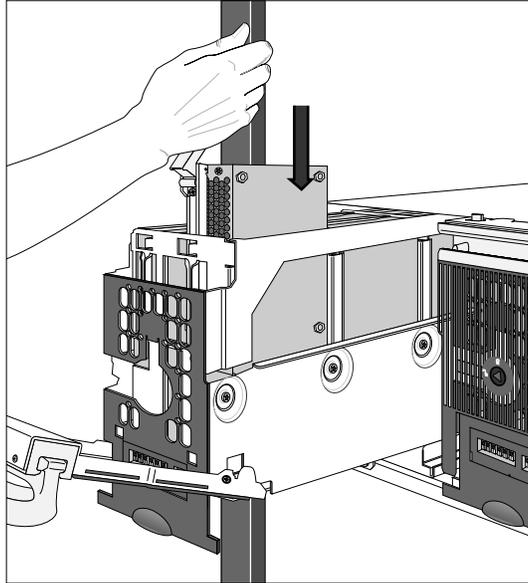

Figure 37. Inserting the Disk DCC
1. Grasp the replacement Disk DCC by the handle. Using your other hand to support the Disk DCC, lower it into the drive slot in the drive drawer as shown in Figure 37.